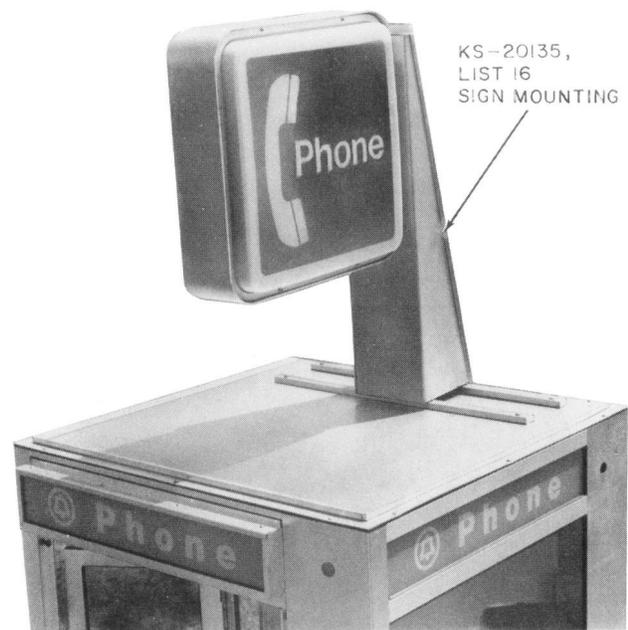
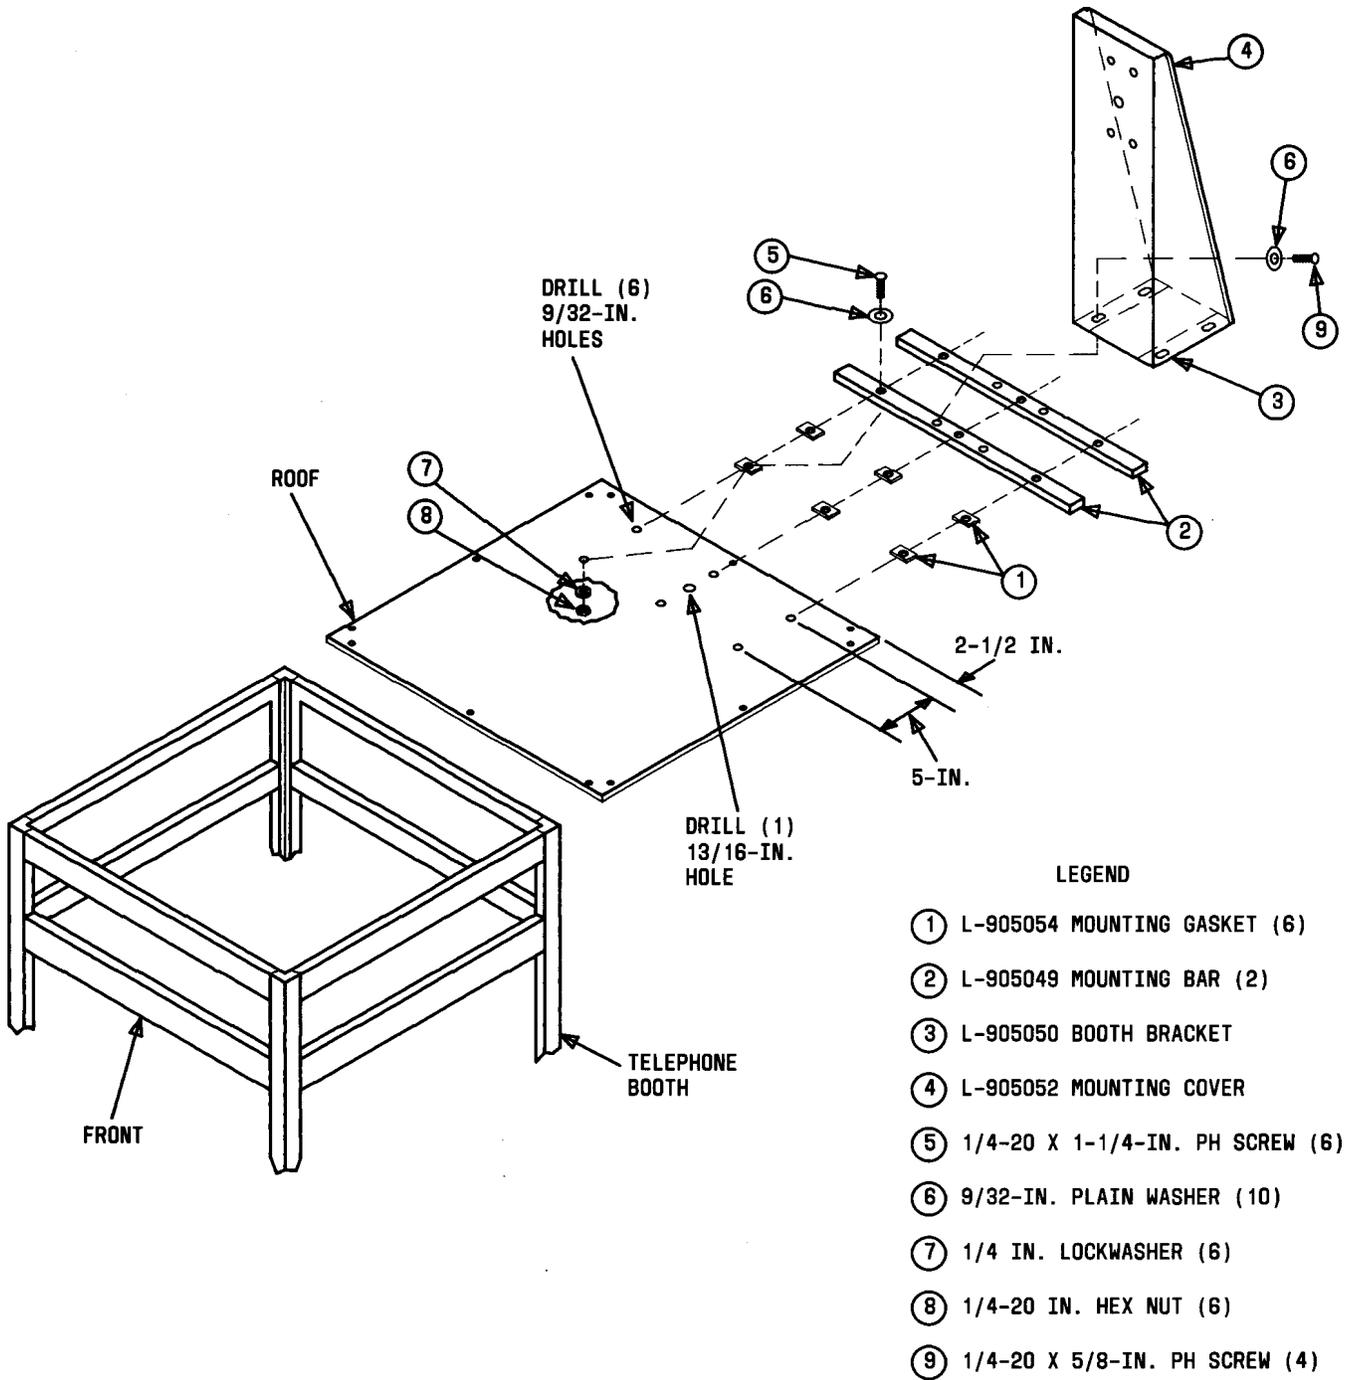

Fig. 31—KS-20135, List 1 Sign Installed on Top of Telephone Booth
Fig. 32—Installing KS-20135, List 16 Sign Mounting
3.21 Install a List 1 (Fig. 31), 11, or 101 sign on top of telephone booth (Fig. 32 and 33) as follows:
- (b) Locate one of the mounting bars (item 2) 2-1/2 inches (center of mounting holes) from the back edge of the roof and place the other mounting bar 5-inches away (center of mounting holes) from the first bar. Center the two bars between the